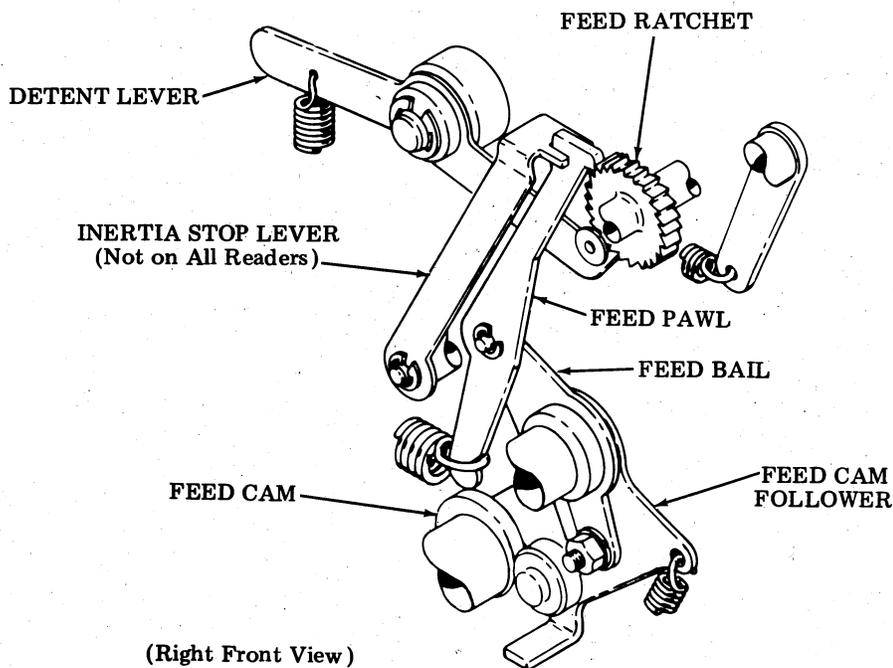

Figure 16 - Feed Mechanism
3.13 Motion for operating the feed mechanism is transferred from the feed cam as follows (Figure 16).